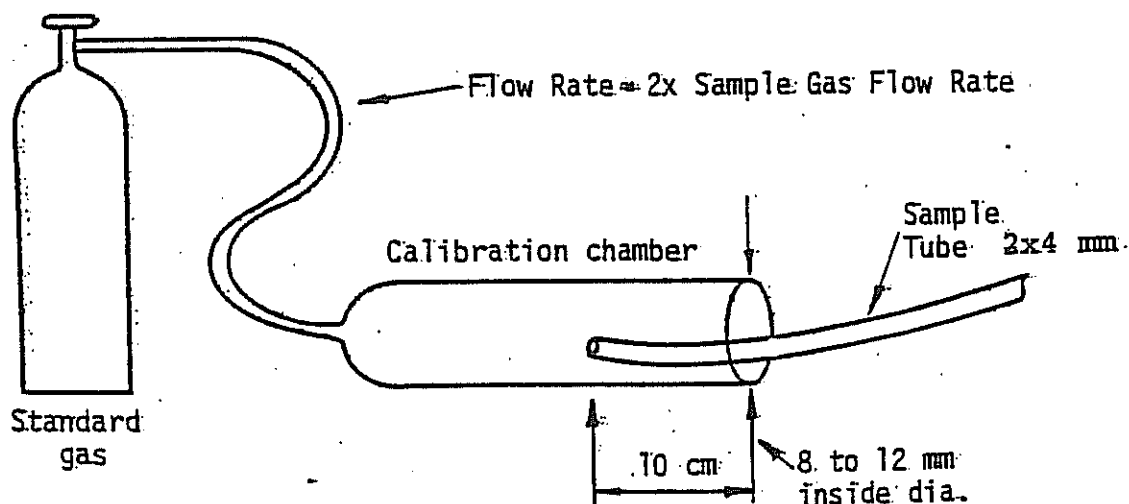

Fig. 5.a. Calibration Chamber and Connections.
- 4) Place the Sample Tube in the Calibration Chamber as shown in Fig.5.A.